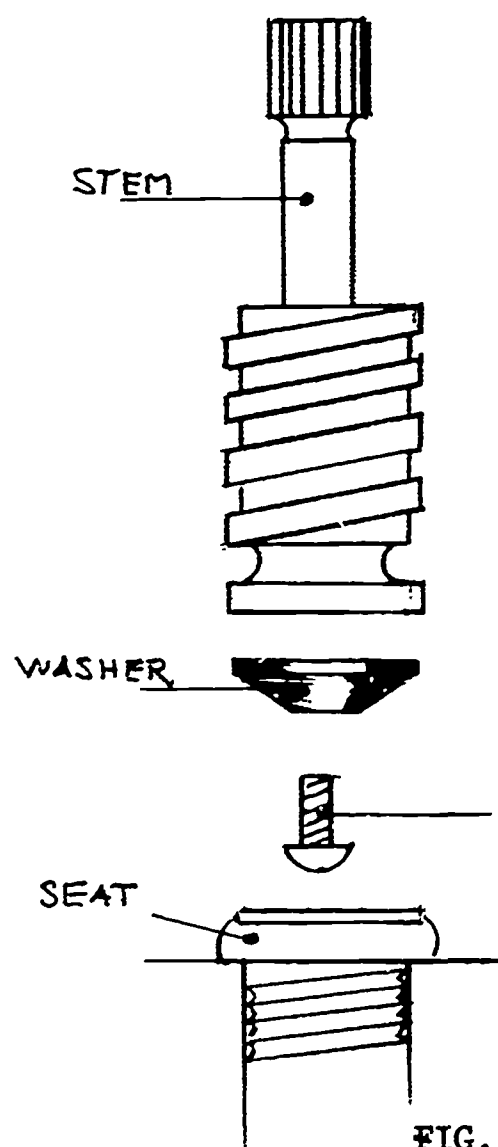

FIG. 316
- e. The washer can now be seen on the end of the stem. It is held by a brass bolt. Unscrew bolt and remove washer. See figure 316.